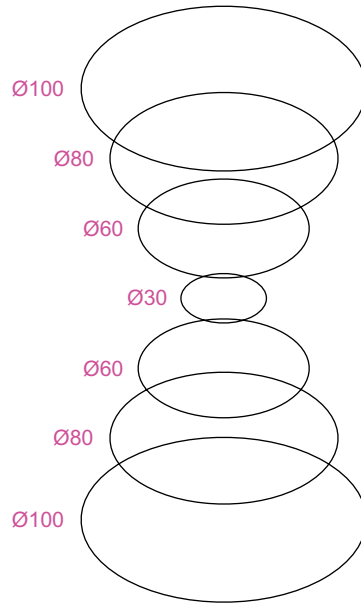

Fig. 12.39 Example **Loft** – the cross sections
1. In the **3D Navigate/Top** view, construct the seven circles shown in Fig. 12.39 at vertical distances of **30** units apart.